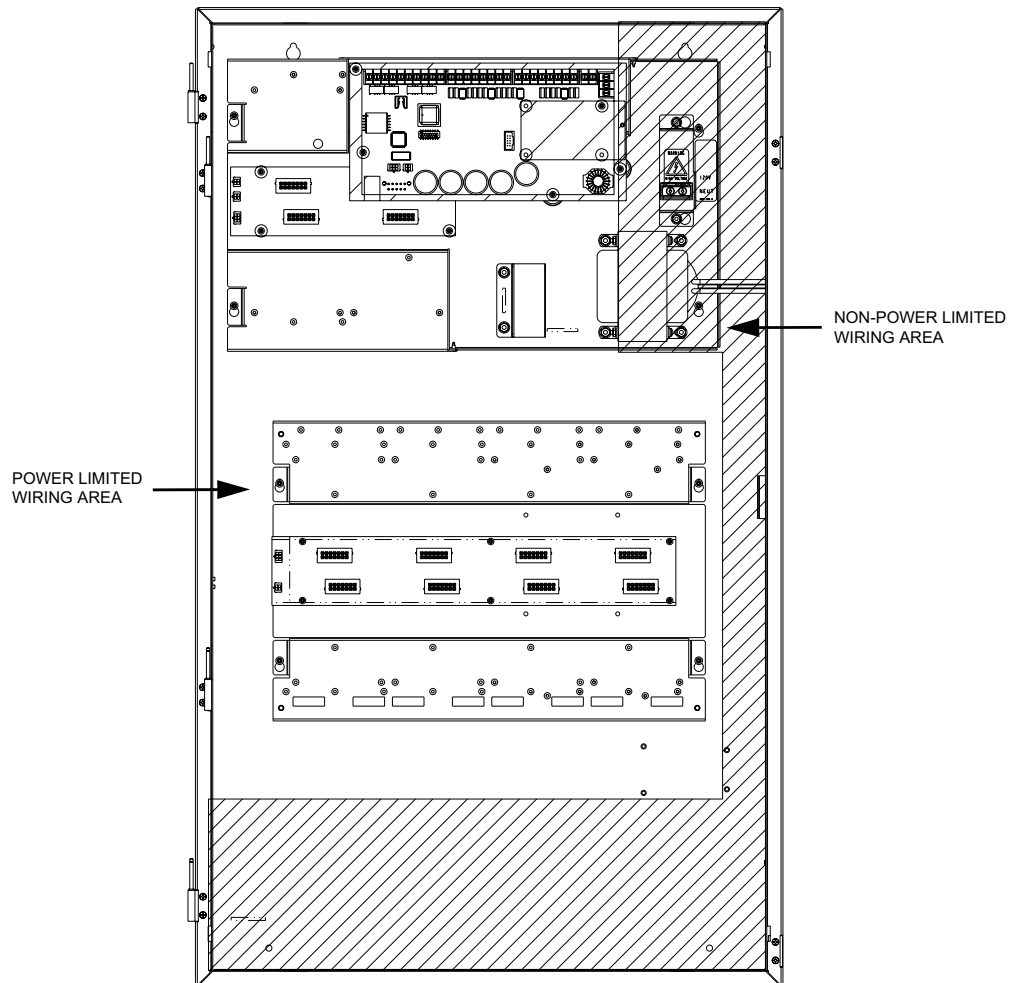

Figure 5-5. Field wiring guidelines
- Non-power limited field wiring (AC power, batteries, city connection) must be installed and routed in the shaded areas shown in Figure 5-5.
- Power-limited field wiring must be installed and routed in the non-shaded areas shown in Figure 5-5, with the exception of city wiring.